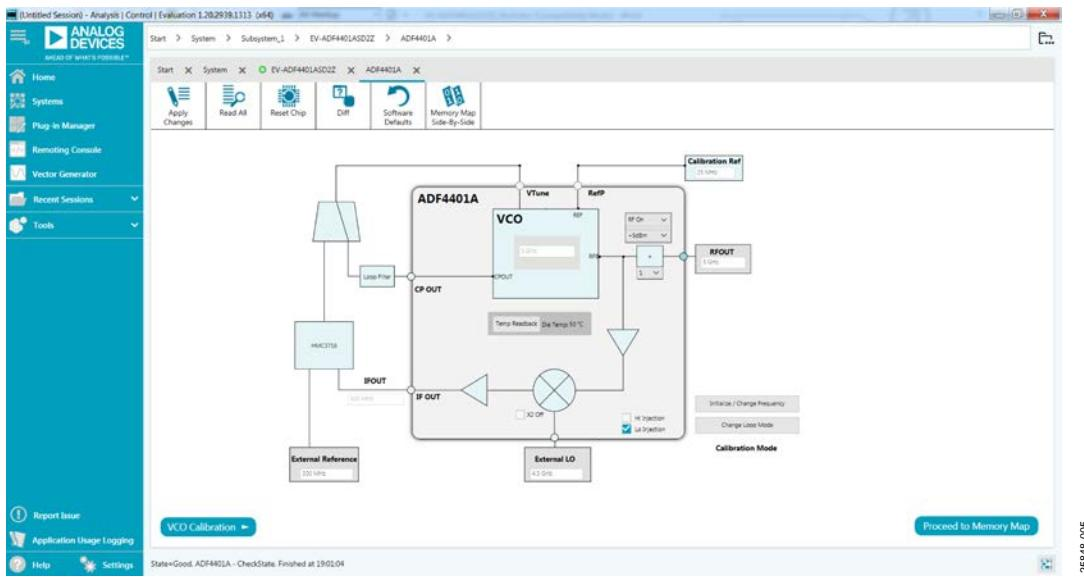
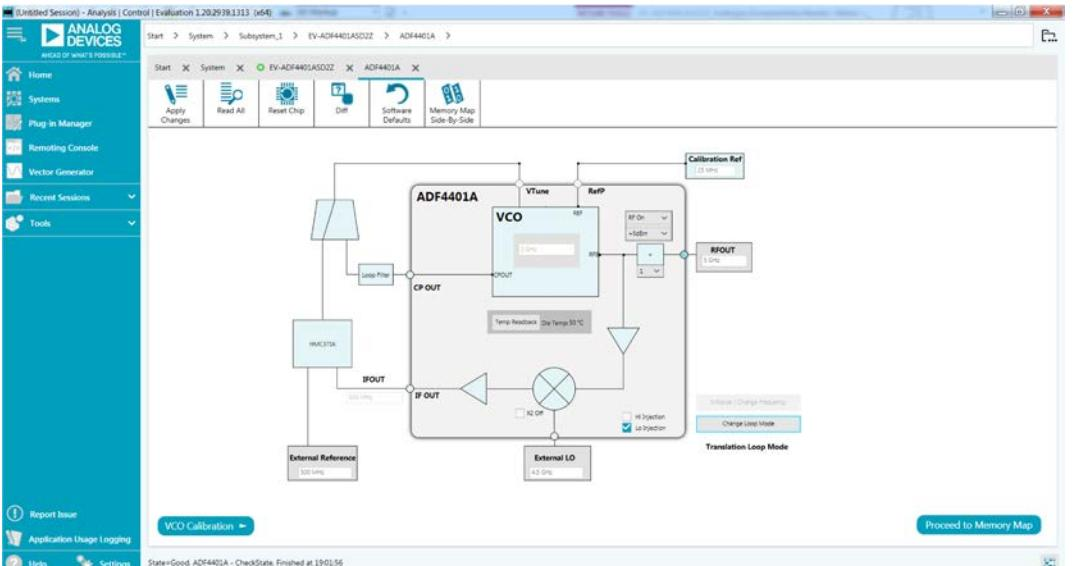

Figure 5. ADF4401A Tab, Main Control Window (**Calibration Mode**)
Figure 6. ADF4401A Tab, Main Control Window (**Translation Loop Mode**)
3. Double click the ADF4401A icon in the EV-ADF4401ASD2Z tab to open the main control window in the ADF4401A tab, as shown in Figure 5 and Figure 6.
The main controls in **ACE** are available in the high level register map shown in Figure 5 and Figure 6. To modify the registers, perform the following steps:
6. When the initialization completes, change the mode from **Calibration Mode** to **Translation Loop Mode** by clicking **Change Loop Mode**. Click this button to return to **Calibration Mode**. The current mode is indicated below the **Change Loop Mode** button, and the switch position is updated accordingly, as shown in Figure 6.
3. Run the ACE software. Set the **Calibration Ref** to 25 MHz, the **External Reference** to 500 MHz, and the **External LO** to 4.5 GHz (see Figure 5).